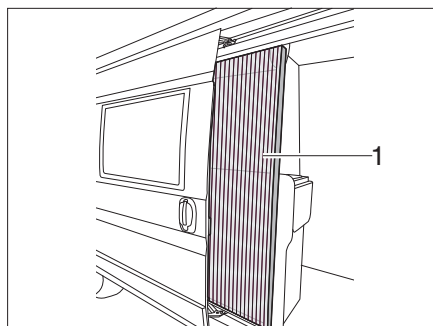

Fig. 21 Insect screen
- Closing:* ■ Pull out the insect screen completely at the strip (Fig. 21,1).
- Opening:* ■ Push the insect screen back into the starting position at the strip (Fig. 21,1).